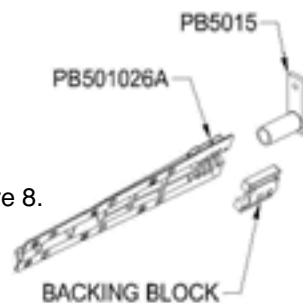

Figure 8
- A. Loosely clamp the bracket (part number PB501026A) and the backing block to the swivel (part number PB5015). Do not tighten down the bolts. Allow the bracket to rotate on the swivel during installation. See figure 8.